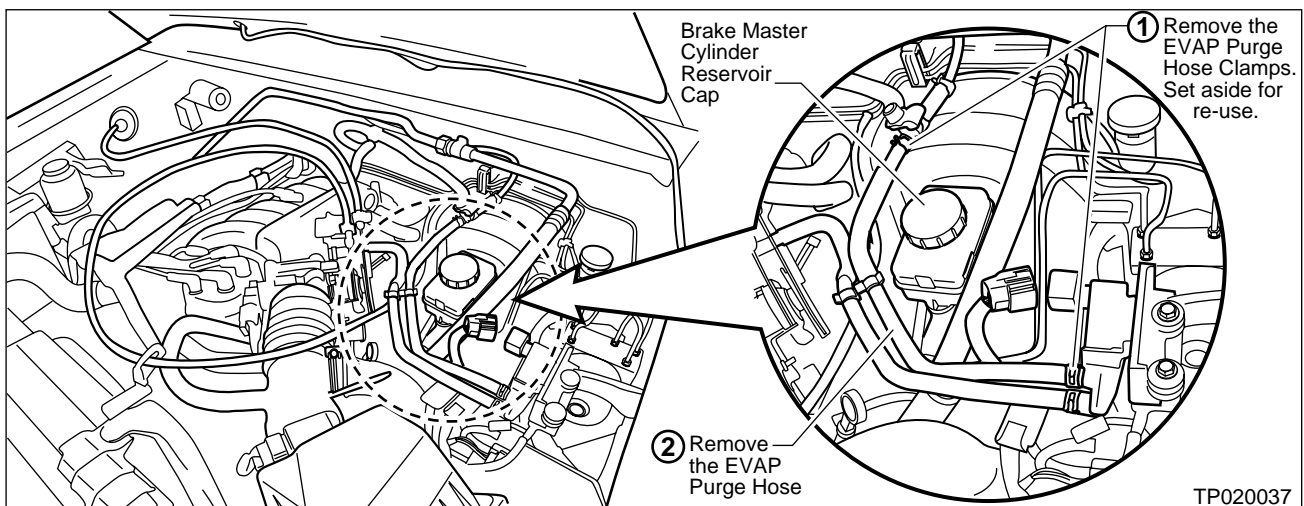

Figure 2
5. Remove the Hose Clamps from the EVAP Purge Hose (see Figure 2).
6. Remove the EVAP Purge Hose (see Figure 2).